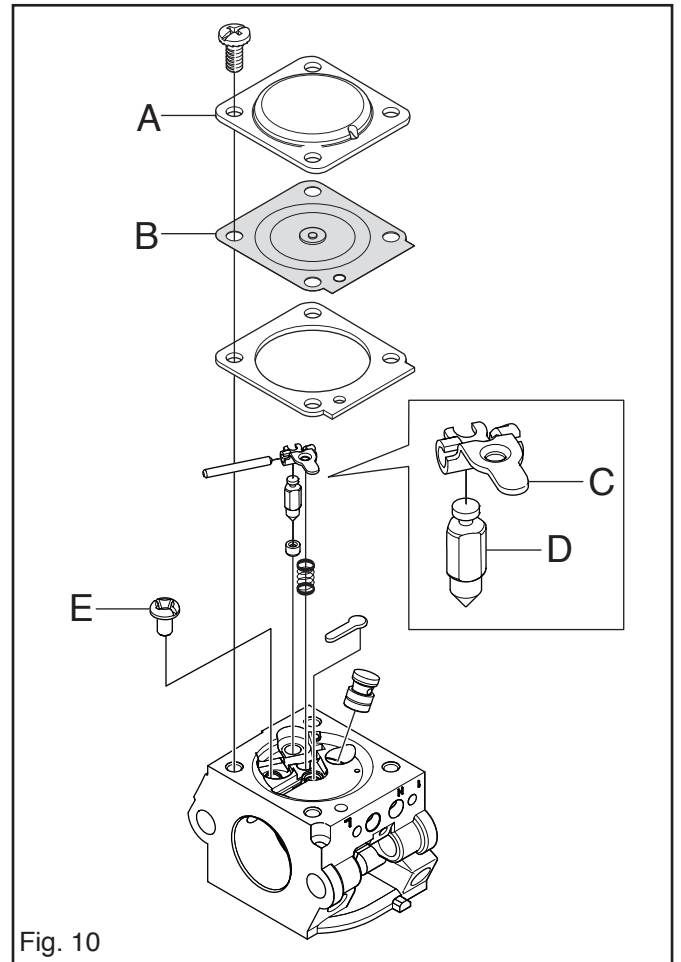

Fig. 10
8. Remove the cover (A) over the metering unit and carefully remove the metering diaphragm (B) and gasket. See fig. 10.
9. Remove the screw (E) and take out the needle valve (D) with lever (C), spindle and spring. See fig. 10.
See fig. 10, 11 and 12 and check the following:
3. The needle valves and lever are not worn at C and D in fig. 10.